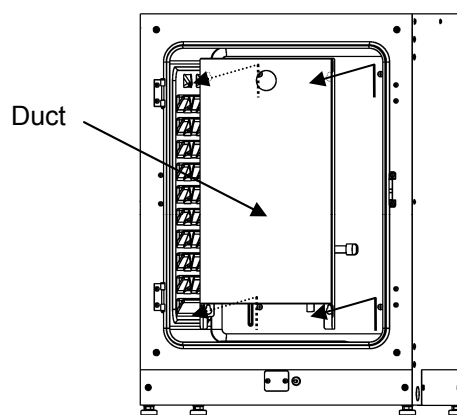

Fig. 5
6. Lift the duct and remove it from the pins on the rear side. (Fig. 5)